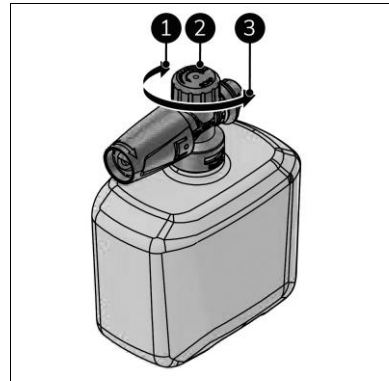

Figure 19
3. Rotate the head of the foam nozzle (Figure 19, pos. 2) to change the amount of foam:
- for more foam turn it clockwise (Figure 19, pos. 1).
- for less foam turn it anti-clockwise (Figure 19, pos. 3).